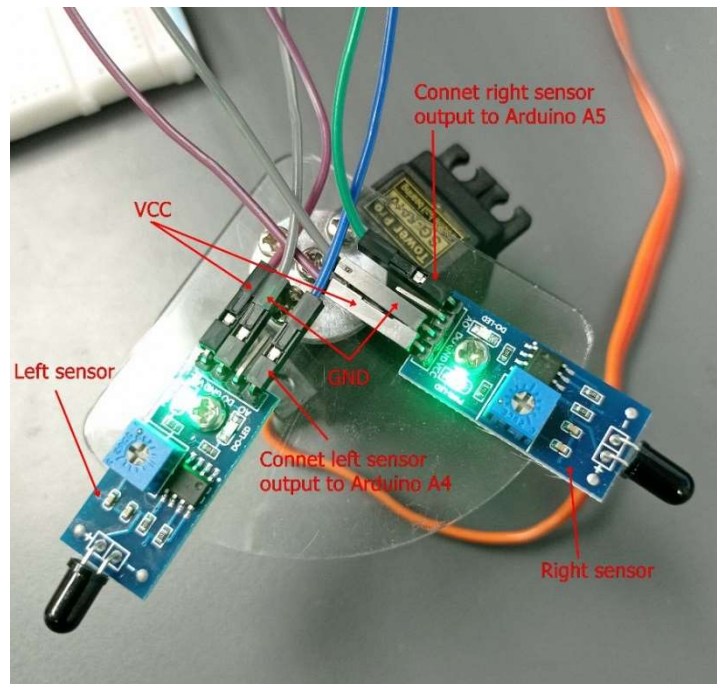

Fig. 5: IR sensor modules connections
- a. Connect the left sensor output (the blue wire) to Arduino pin A4 and connect the right sensor output (the green wire) to Arduino pin A5 as shown in Fig. 5. (use the same color wires as on the picture is recommended)